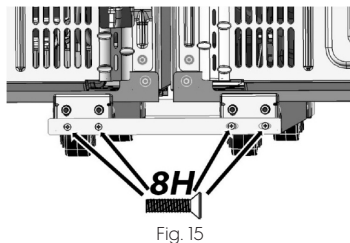

Fig. 15
16. Attach the other 9H bracket to the rear levelers (Fig. 15), keeping the right screws loose.